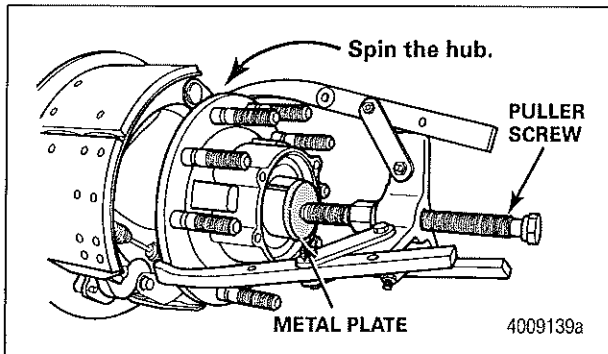

Figure 7
9. Either loosen the hub from the spindle by hand or use a puller to remove the hub from the axle spindle as follows. Figure 7.